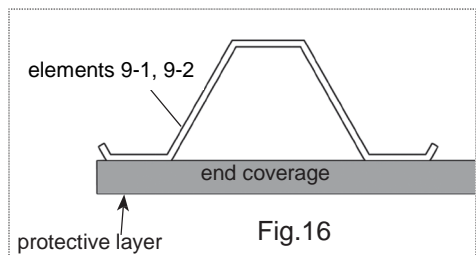

Fig.16
- Mount side pieces of end coverage in accordance with Fig. 16. Holding a piece of coverage fasten it with screws and washers by elements 8 (Fig.22). Holes for screws are drilled by boring bit of 4 mm diameter from inside of greenhouse through available holes in frame elements.